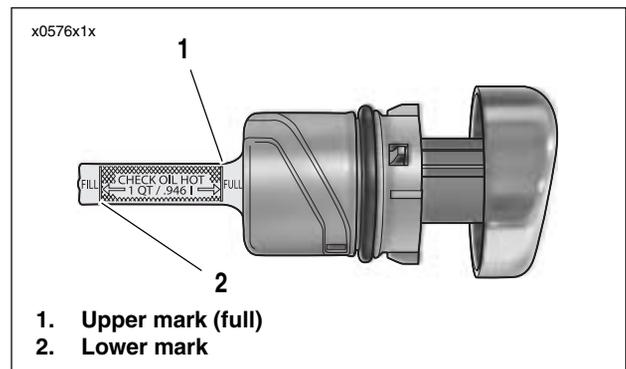

Figure 1-3. Checking Oil Level
- Remove oil filler cap again and check oil level on dipstick. See Figure 1-3. Dipstick has two marks. If oil level is at or below lower mark (2), add only enough oil to bring the level to a point between the two arrows on the dipstick. Replace filler cap.
- Remove filler cap again and check warm oil level on dipstick. See Figure 1-3. Dipstick has two marks. If oil level in tank is at or below lower mark, add one quart (0.946 liter) of Harley-Davidson oil to tank. Replace filler cap.